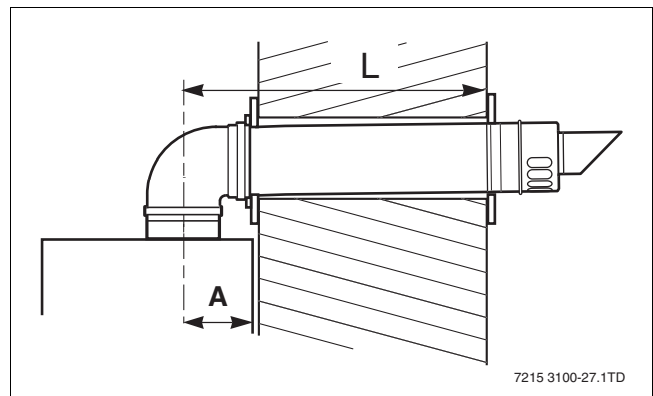

Fig. 27 Flue length - rear
- Measure the flue length L. Refer to figures 27 and 28. The length L is from the centre line of the flue turret to the outside face of the wall.